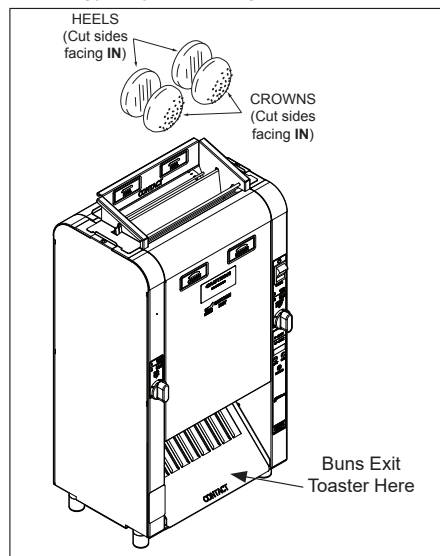

Figure 7. Toasting
3. Set both Bun thickness Compression Knobs to 6. (Figure 7).